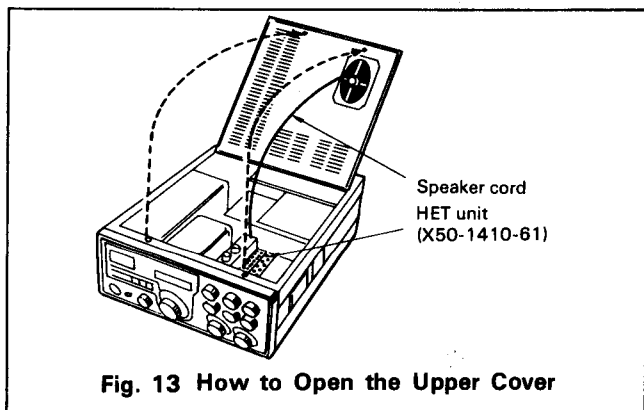

Fig. 13 How to Open the Upper Cover
1. Pull up the two grommets and open the top lid. (See Fig. 13)